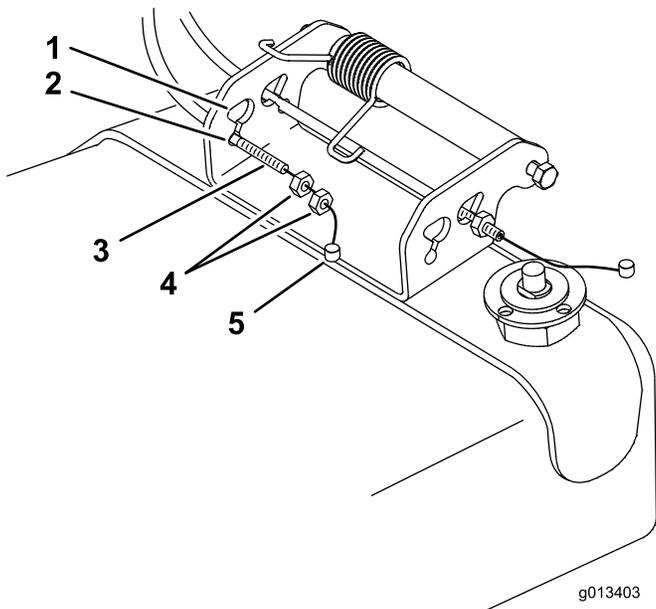

Figure 10
5. Remove the jam nuts from the thread ends of the cables (Figure 10).
7. Install the jam nuts and cable barrel end through the large hole (Figure 10).
8. Install the cable into the smallest diameter hole in the side discharge chute (Figure 10).